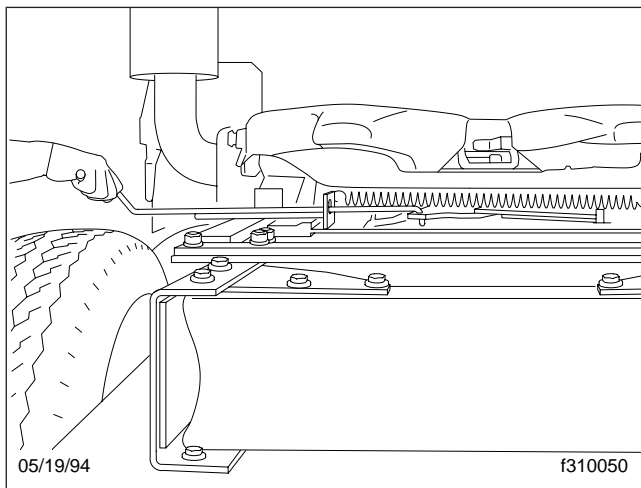

Fig. 8.10, Fontaine Sliding Fifth Wheel Manual Release
- 2.2 For manual release models, lift the slide release pull handle to disengage it from the guide plate. Then, pull out the handle (**Fig. 8.10**) until it is in the unlocked position and can be positioned against the guide plate to hold it out. The slide release pull handle will stay in the unlocked position until it is manually disengaged from the guide plate.